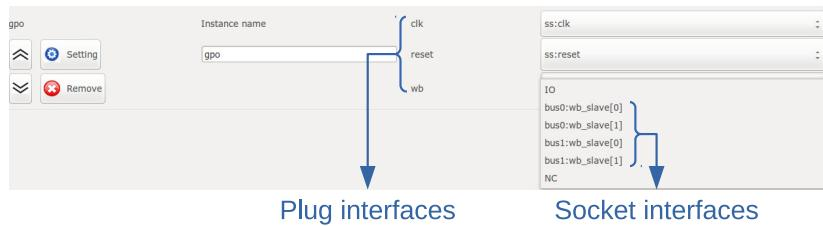

Figure 2.1: GPO IP box snapshot.
- In the processing tile generator only the *plug* interfaces of an IP are displayed in the IP box. The user can select the connection interface from the list of all IP cores that have the *socket* type of that interface, as shown in Figure 2.1.